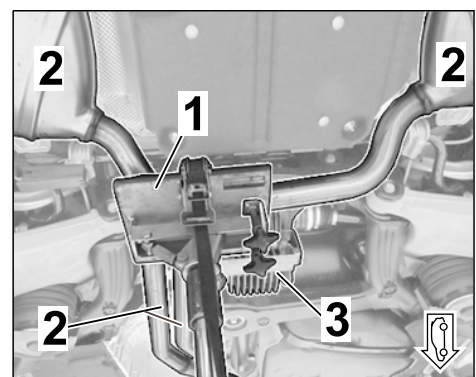

Figure 8
- 1.3.3 **VAS 6931 - Engine and gearbox jack** must be positioned under the exhaust system (in transfer case area). Then, secure the exhaust system with restraining straps to prevent it from falling down (⇒ *Figure 8*).